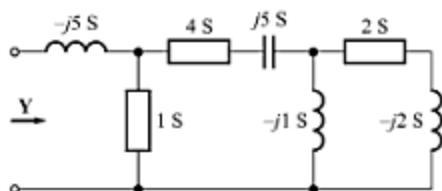

Fig. C-60
- C-91. Find the admittance \mathbf{Y} of the circuit shown in Fig. C-60. [Ans. $2.29 \angle -42.2^\circ \text{ S}$]